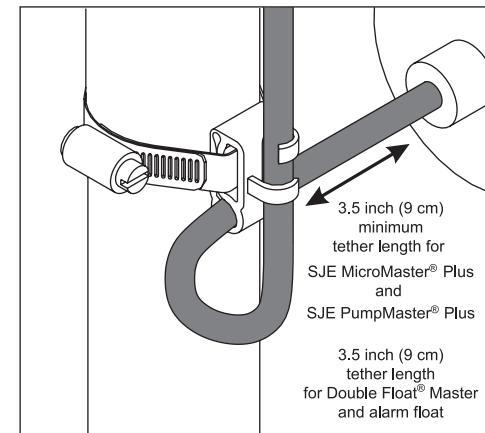

FIGURE 3
2. Mount float switches at appropriate levels as illustrated in **Figure 3**. Be sure that floats have free range of motion without touching each other or other equipment in the basin.
3. For mounting clamp installation: place the cord into the clamp as shown in **Figure 3**. Locate the clamp at the desired activation level and secure the clamp to the discharge pipe as shown in **Figure 3**.